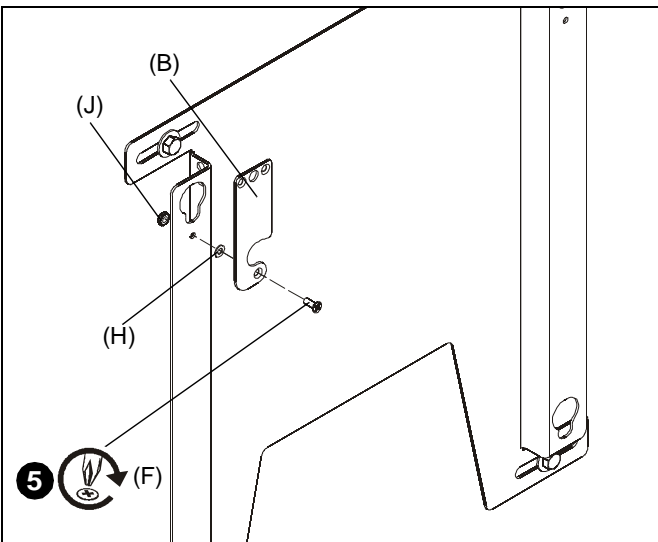

Figure 2
6. Secure latching flag (B) to mount using #10-24 x 1/2" Phillips machine screw (F), spacer (H) and #10-24 lock nut (J). (See Figure 2)